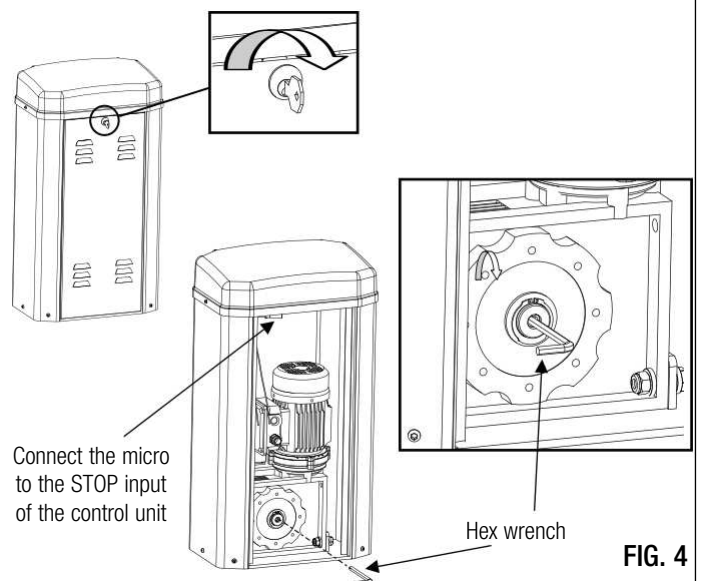

FIG. 4
- insert the hex wrench and rotate It 3 times counterclockwise (Fig. 4).